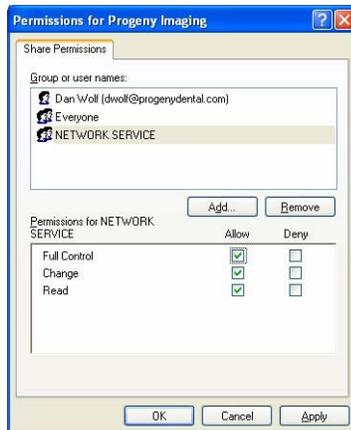

Figure 73
13. In the Permissions for Progeny Imaging box, select Allow for Full Control (see Figure 73 on page 46).